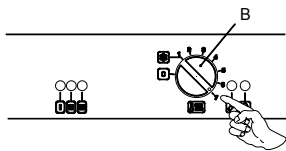

Figure 15.7
- Turn the boiler ON positioning the function selector B in the position shown in figure 15.7 and ensure that the room thermostat is set to “heat demand”.
- Turn the boiler ON positioning the function selector B in the position shown in figure 15.7 and ensure that the room
- Watch the gauge and check to see if the ignition pressure registered corresponds to the values given in the Technical Data. Turn off the boiler and reignite it by turning the function selector B to the 0 position and then back to that indicated in figure 15.7.